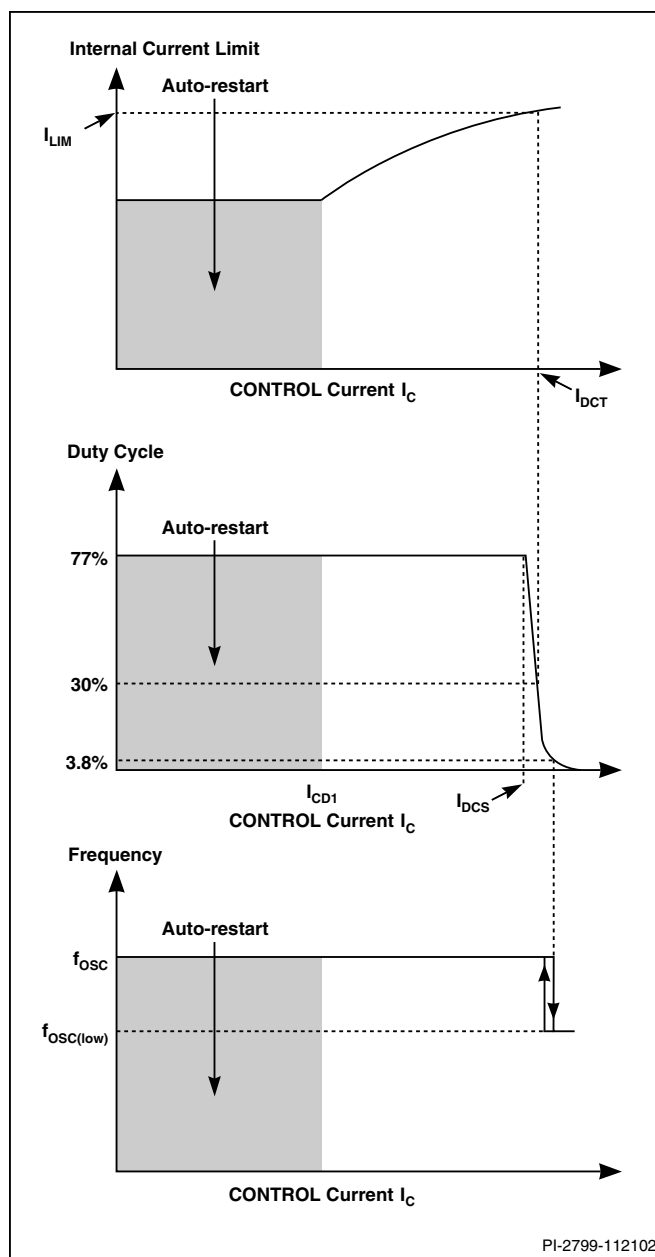
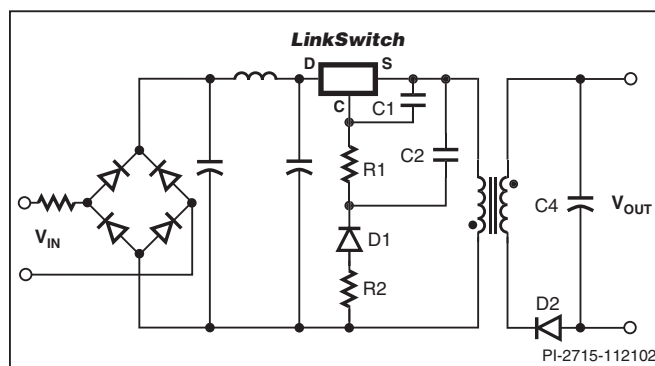
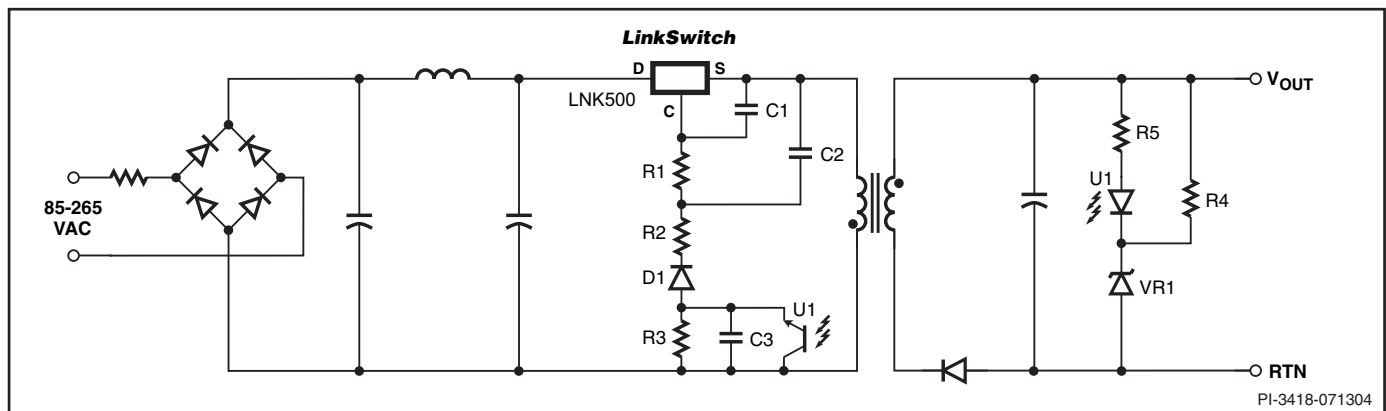

Figure 4. CONTROL Characteristics.
Figure 5. Power Supply Outline Schematic.
Figure 6. Power Supply Outline Schematic with Optocoupler Feedback.
The duty cycle, current limit and operating frequency relationships with CONTROL pin current are shown in Figure 4. Figure 5 shows a typical power supply outline schematic which is used below to describe the *LinkSwitch* operation.
During power up, as  $V_{IN}$  is first applied (Figure 5), the CONTROL pin capacitor C1 is charged through a switched high voltage current source connected internally between the DRAIN and CONTROL pins (see Figure 2). When the CONTROL pin voltage reaches approximately 5.6 V relative to the SOURCE pin, the high voltage current source is turned off, the internal control circuitry is activated and the high voltage internal MOSFET starts to switch. At this point, the charge stored on C1 is used to supply the internal consumption of the chip.
As the output voltage, and therefore the reflected voltage across the primary transformer winding ramp up, the feedback CONTROL current  $I_C$  increases. As shown in Figure 4, the internal current limit increases with  $I_C$  and reaches  $I_{LIM}$  when  $I_C$  is equal to  $I_{DCT}$ . The internal current limit vs.  $I_C$  characteristic is designed to provide an approximately constant power supply output current as the power supply output voltage rises.
When  $I_C$  exceeds  $I_{DCS}$ , typically 2 mA (Figure 4), the maximum duty cycle is reduced. At a value of  $I_C$  that depends on power supply input voltage, the duty cycle control limits *LinkSwitch* peak current below the internal current limit value. At this point the power supply transitions from CC to CV operation. With minimum input voltage in a typical universal input design, this transition occurs at approximately 30% duty cycle. Resistor R1 (Figure 5) is therefore initially selected to conduct a value of  $I_C$  approximately equal to  $I_{DCT}$  when  $V_{OUT}$  is at the desired value at the minimum power supply input voltage. The final choice of R1 is made when the rest of the circuit design is complete. When the duty cycle drops below approximately 4%, the frequency is reduced, which reduces energy consumption under light load conditions.
Figure 6 shows a typical power supply outline schematic using *LinkSwitch* with optocoupler feedback to improve output voltage regulation. On the primary side, the schematic differs
from Figure 5 by the addition of R3, C3 and optocoupler U1. R3 forms a potential divider with R1 to limit the U1 collector emitter voltage.
The feedback configuration in Figure 6 is simply a resistive divider made up of R1 and R3 with D1, R2, C1 and C2 rectifying, filtering and smoothing the primary winding voltage signal. The optocoupler therefore effectively adjusts the resistor divider ratio to control the DC voltage across R1 and therefore, the feedback current received by the *LinkSwitch* CONTROL pin.
When the power supply operates in the constant current (CC) region, for example when charging a battery, the output voltage is below the voltage feedback threshold defined by U1 and VR1 and the optocoupler is fully off. In this region, the circuit behaves exactly as previously described with reference to Figure 5 where the reflected voltage increases with increasing output voltage and the *LinkSwitch* internal current limit is adjusted to provide an approximate CC output characteristic. Note that for similar output characteristics in the CC region, the value of R1 in Figure 5 will be equal to the value of  $R1 + R3$  in Figure 6.
When the output reaches the voltage feedback threshold set by U1 and VR1, the optocoupler turns on. Any further increase in the power supply output voltage results in the U1 transistor current increasing, which increases the percentage of the reflected voltage appearing across R1. The resulting increase in the *LinkSwitch* CONTROL current reduces the duty cycle according to Figure 4 and therefore, maintains the output voltage regulation.
The extent to which R3 can be increased is limited by opto transistor voltage and dissipation ratings and should be fully tested before finalizing a design. The values of C2 and C3 are less important other than to make sure they are large enough to have very little influence on the impedance of the voltage division circuit set up by R1, R3 and U1 at the switching frequency. Normally, the values of C2 and C3 in Figure 6 are chosen equal to the value of C2 in Figure 5, though the voltage rating may be reduced depending on the relative values of R1 and R2 discussed above. See Applications section for typical values of components.
The output voltage load variation can be improved across the whole load range by adding an optocoupler and secondary reference (Figure 6). The secondary reference is designed to only provide feedback above the normal peak power point voltage to maintain the correct constant current characteristic.
The schematic shown in Figure 5 outlines the key components needed for a *LinkSwitch* supply.
Since the SOURCE pins in a *LinkSwitch* supply are switching nodes, the copper area connected to SOURCE together with C1, C2 and R1 (Figure 5) should be minimized, within the thermal constraints of the design, to reduce EMI coupling.